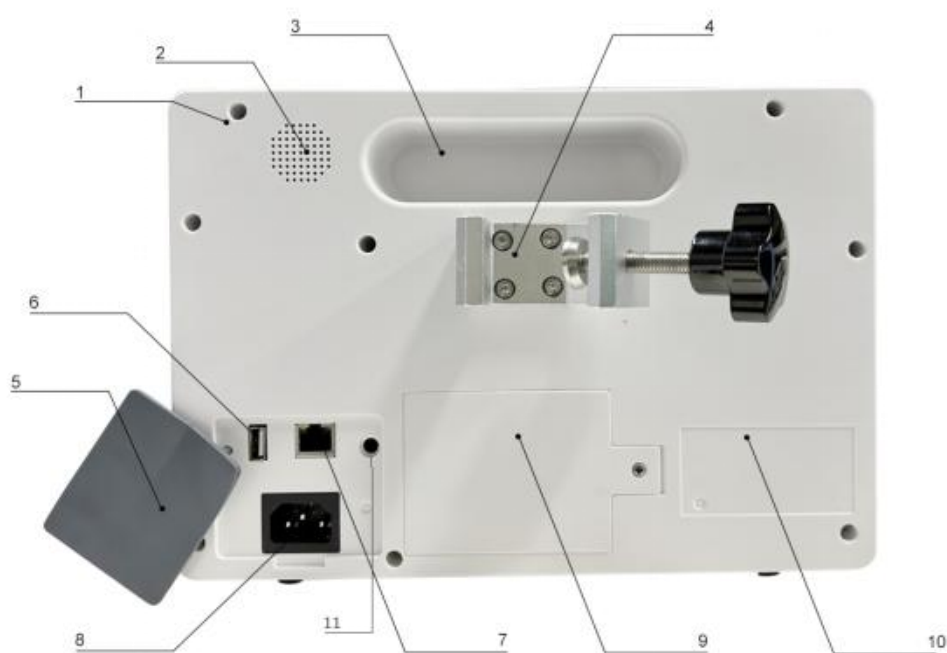

Figure 2-2
2.2.2 Back drawing: (Figure 2-2)